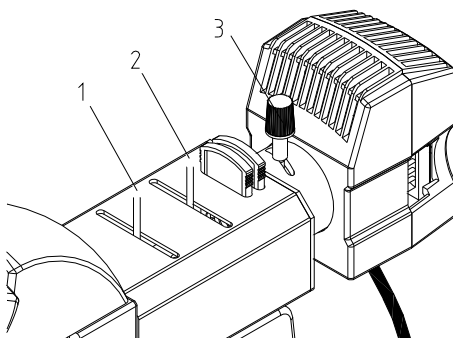

Fig.22
3.3.3 Adjusting the Illumination Set (Fig.22)